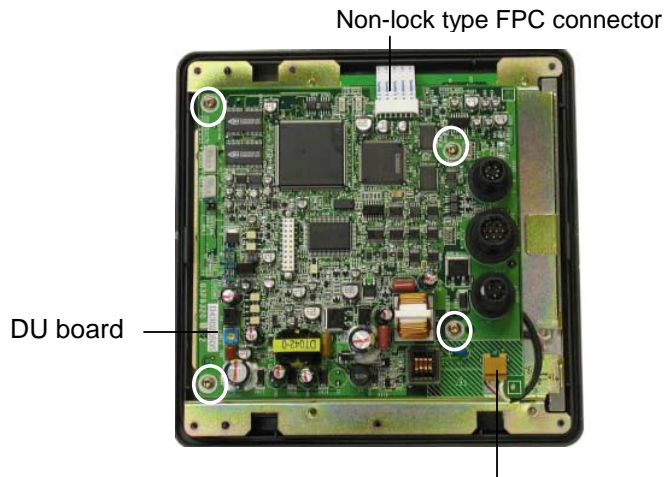

Fig. 4-3
2. To remove DU board, loosen four screws ringed in Fig.4-3.